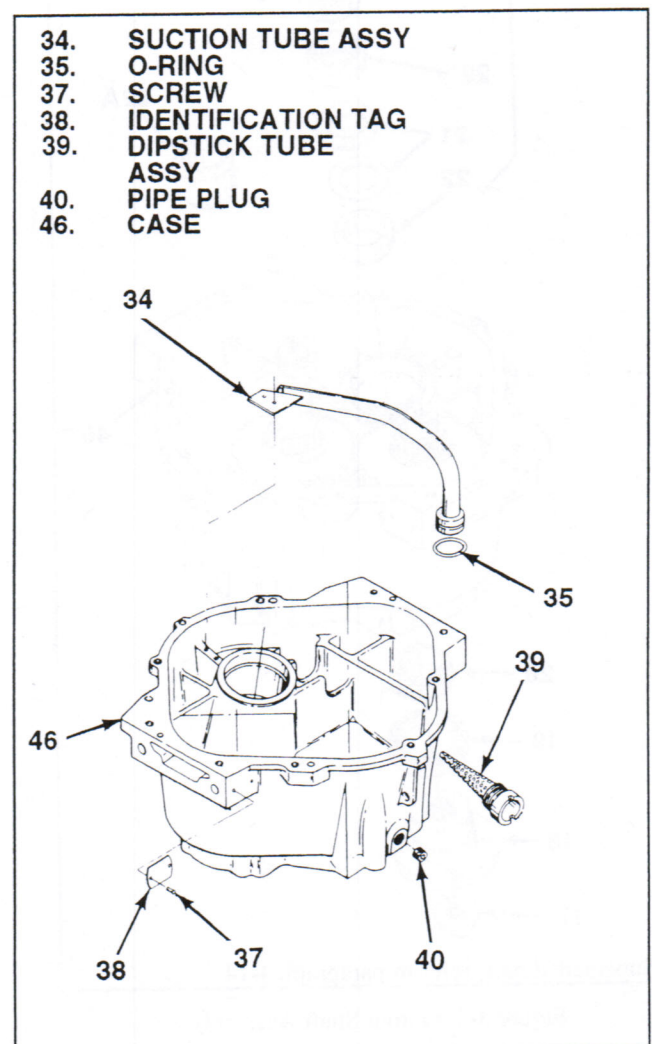

Figure 3-5. Case Components
**3-11. REMOVAL OF CASE COMPONENTS.** After removing shaft assemblies, remove remaining case components as follows (see figure 3-5):
1. Remove suction tube assembly (34) if not already removed in paragraph 3-10. Remove o-ring (35) from groove on suction tube assembly.
3. Remove pipe plug (40) to ensure proper galley cleaning.